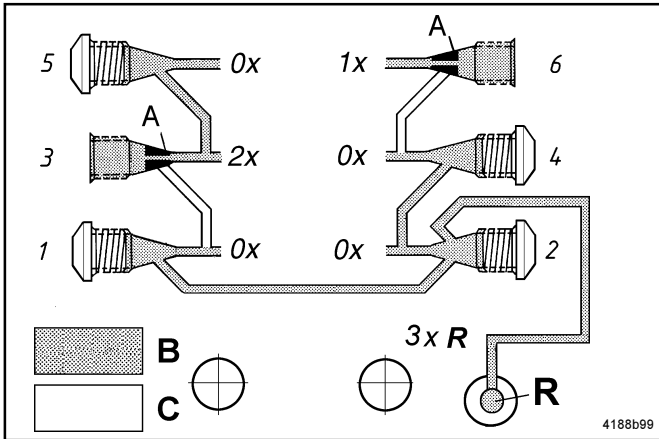

Fig. 4 - Internal return of supplied lubricant on back-mounted SSV divider blocks
- This happens automatically if **outlet 2** is closed with a closure plug (fig. 4). Lubricant quantities from **even and odd outlets can be fed back to the reservoir by combining the outlets 1 and 2.**
- To feed back lubricant, always start with the lowest outlet numbers, for instance, 2, 4, 6... or 1, 3, 5 ... **plus outlet 2.** Fig. 4 shows how the lubricant quantities of outlets 1, 2 and 4 (3xR) return to the reservoir.